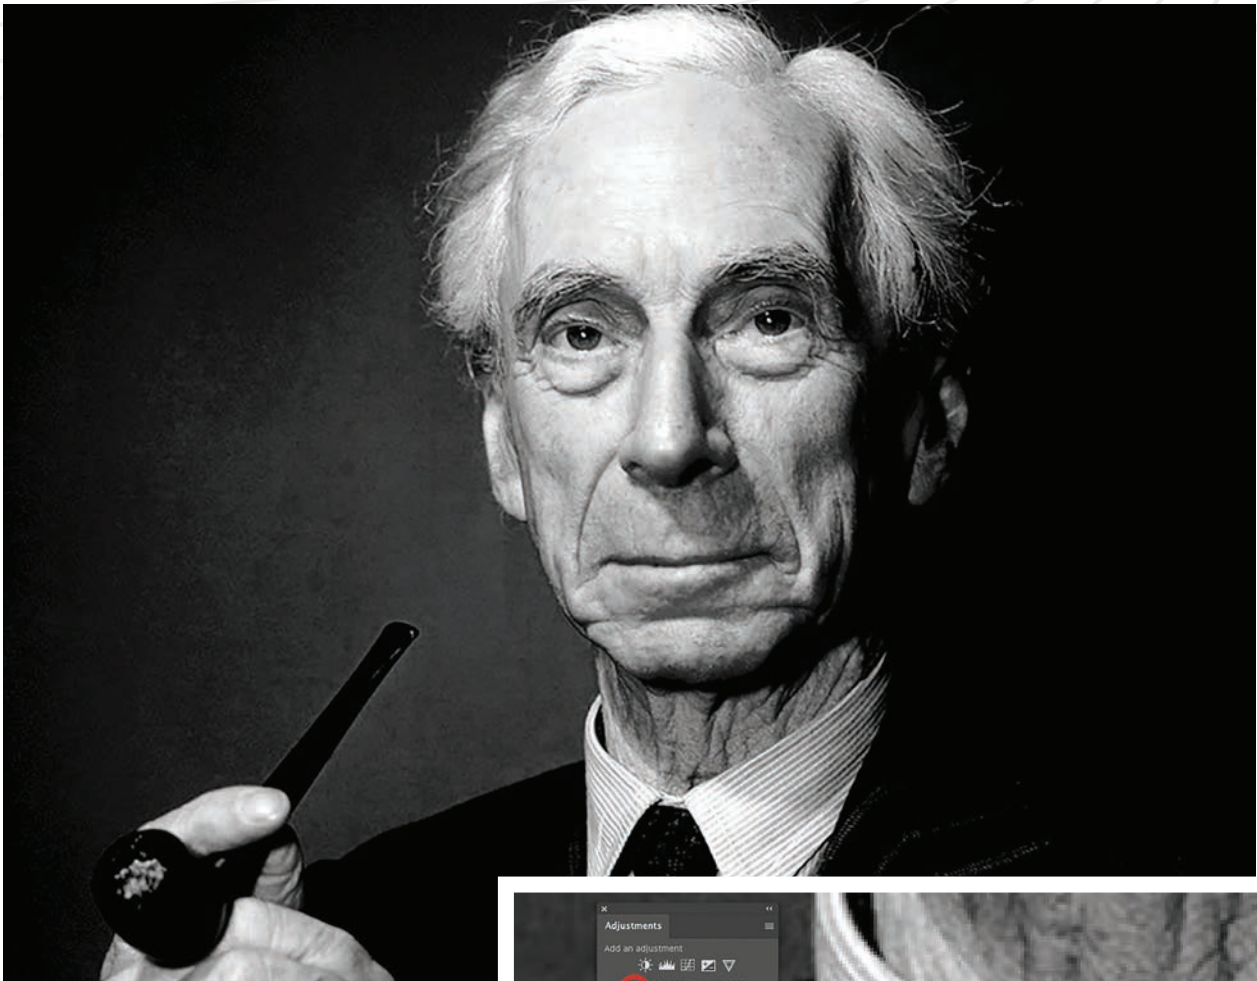

Fig. 6: A black and white portrait of the great British mathematician, Bertrand Russell.
1. Open the document to be colorized. In this case, it's a black and white portrait of the great British mathematician, Bertrand Russell. (Fig. 6)